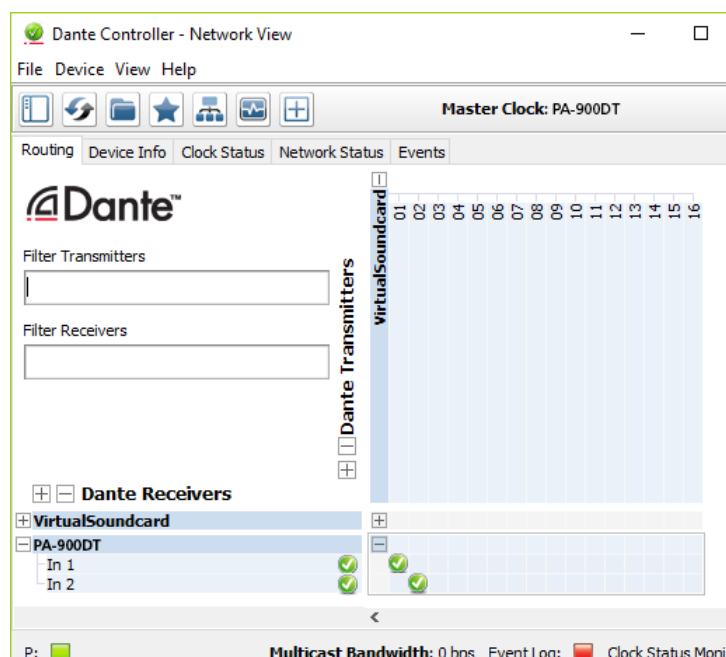

Fig. 9 Routing from the audio source “VirtualSoundcard” to the receiver “PA-900DT”
- 1) Under “Routing” in the window “Network View”, click  to open the channels of the desired Dante transmitter under “Dante Transmitters” and the channels of PA-900DT under “Dante Receivers” (refer to fig. 9).